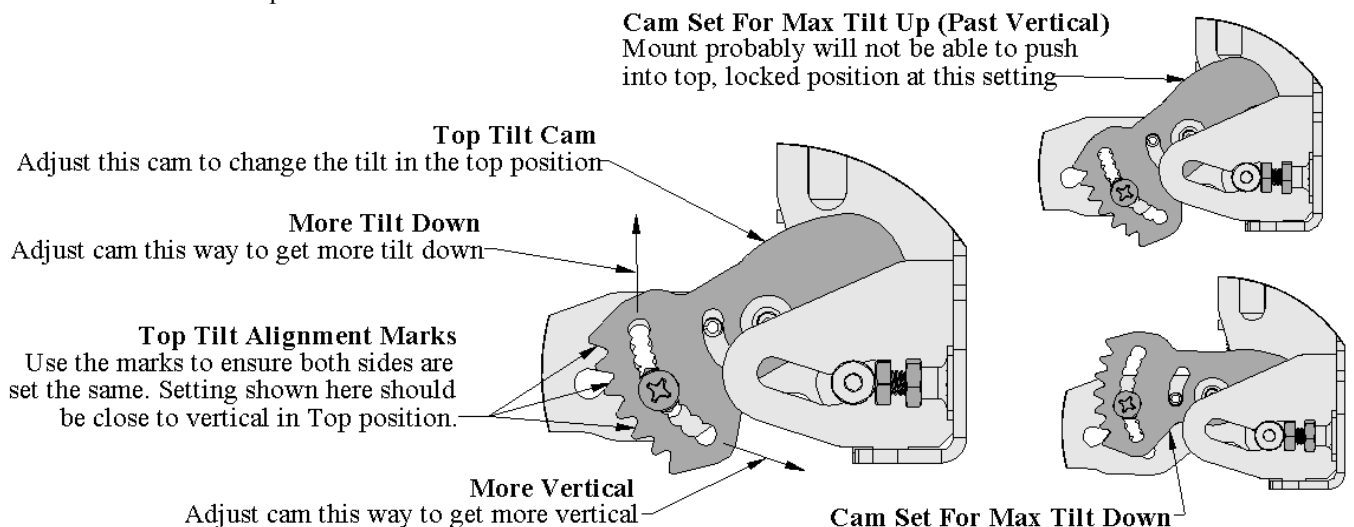

Figure 20, Top Tilt Cam Settings (Detail from Figure 2)
3. Put the bolt into a different set of holes and hand tighten with one nut. Approximate tilt settings are shown in Figure 20. There is a cam on both sides of the mount, use the Top Tilt Alignment Marks and holes to ensure they are at the same position.